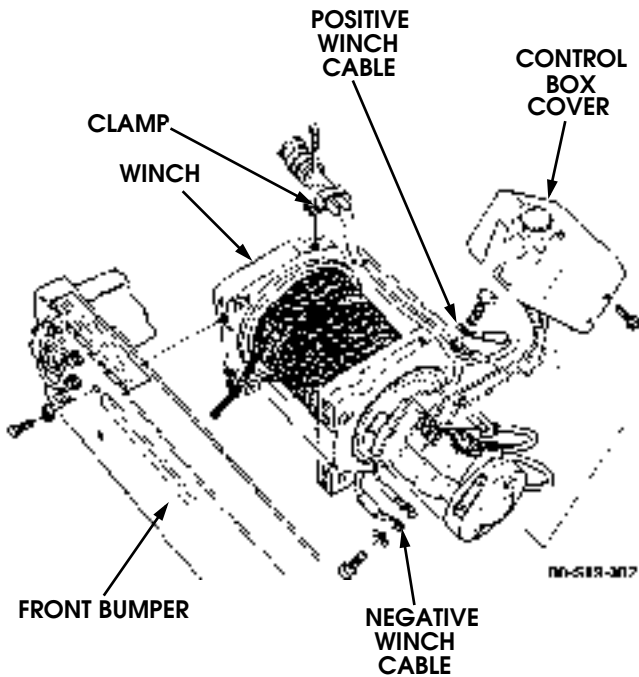

Figure 9-186: Winch and Winch Cables
- Remove four nuts, washers, bolts, and winch from front bumper (Figure 9-186).
- Install positive winch cable on winch with bolt (Figure 9-186).